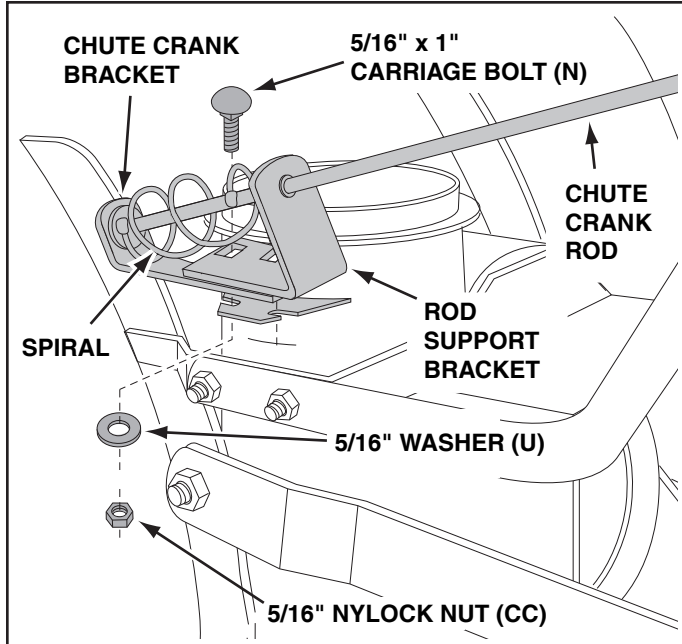
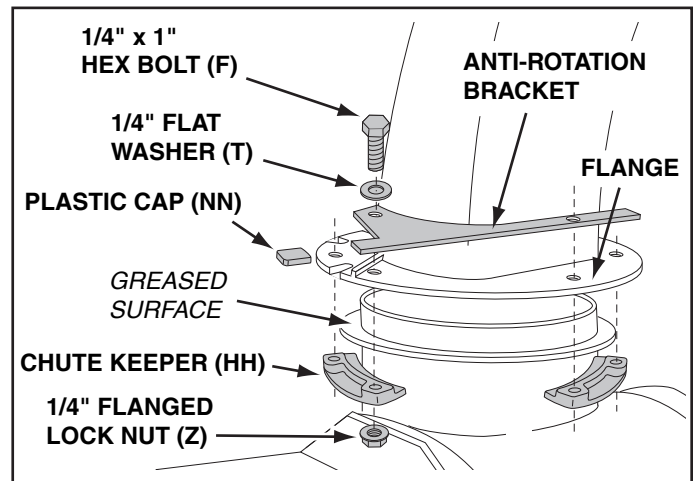

FIGURE 51
FIGURE 52
STEP 52: (SEE FIGURE 51)
- Attach the chute crank rod assembly brackets to the plastic bracket on the left side of the discharge housing. Align the chute crank bracket beneath the rod support bracket and assemble both to the plastic bracket using two 5/16" x 1" carriage bolts (N), 5/16" washers (U) and 5/16" Nylock nuts (CC). **Do not tighten yet.**
STEP 53: (SEE FIGURE 52)
- Place the discharge chute (facing forward) onto the ring. Place the anti-rotation bracket on top of the chute flange, aligning it with the holes on the right hand side of the flange. Attach the three chute keepers (HH) (right side up as shown) to the bottom of the flange using six 1/4" x 1" hex bolts (F), 1/4" flat washers (T) and 1/4" flanged lock nuts (Z). **Tighten carefully** so that the nuts are snug but do not dig into the plastic chute keepers.
- Place the plastic cap (NN) onto the short end of the anti-rotation bracket.
- Position the crank rod spiral (see figure 51) so that it does not rub against the bottoms of the notches in the chute flange. **Tighten** the nuts.
- Secure the control cables to the crank rod support tube using a nylon tie (OO).